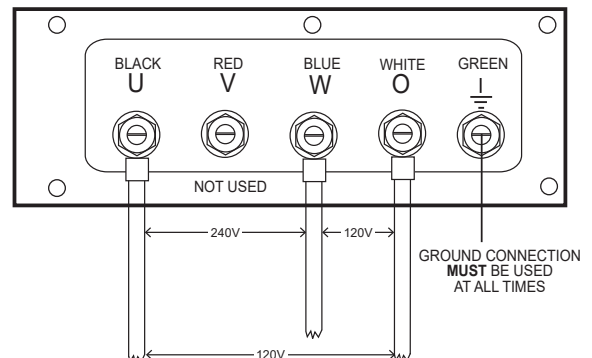

Figure 23. UVWO Terminal Lugs
2. Connect the load wires to the **UVWO terminal lugs** as shown in Figure 23.